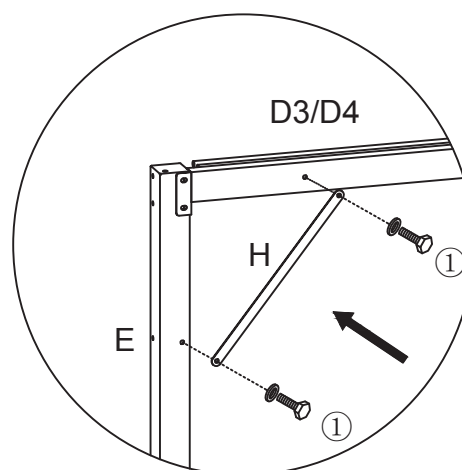

Fig. 5
Connect the beam (D3/D4) and the post (E) with the Bolts ① and the Connecting Flat Iron (H), as shown in Fig. 5.